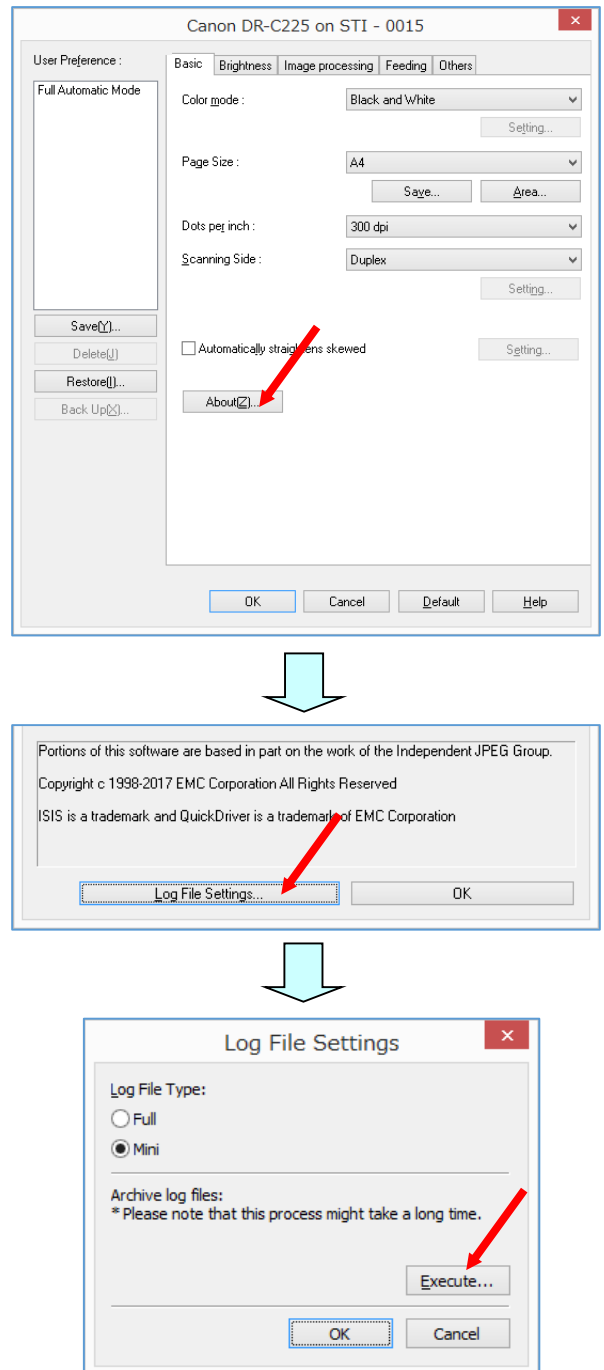

Figure 5-245
- ◆ Obtain procedure (refer to Figure 5-245)